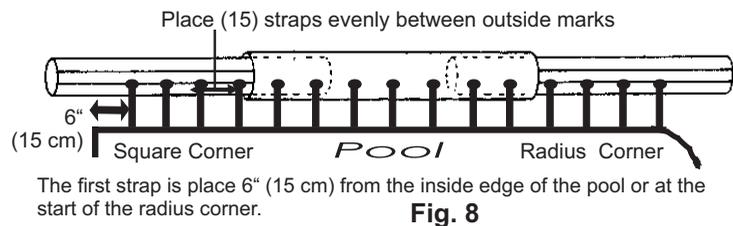

Fig. 8
- A. Mark each end tube 6" (15 cm) in from the inside edge of pool. Straps are installed on a DRILL LINE at these marks and the remainder spaced evenly between these marks. (see Fig. 8)